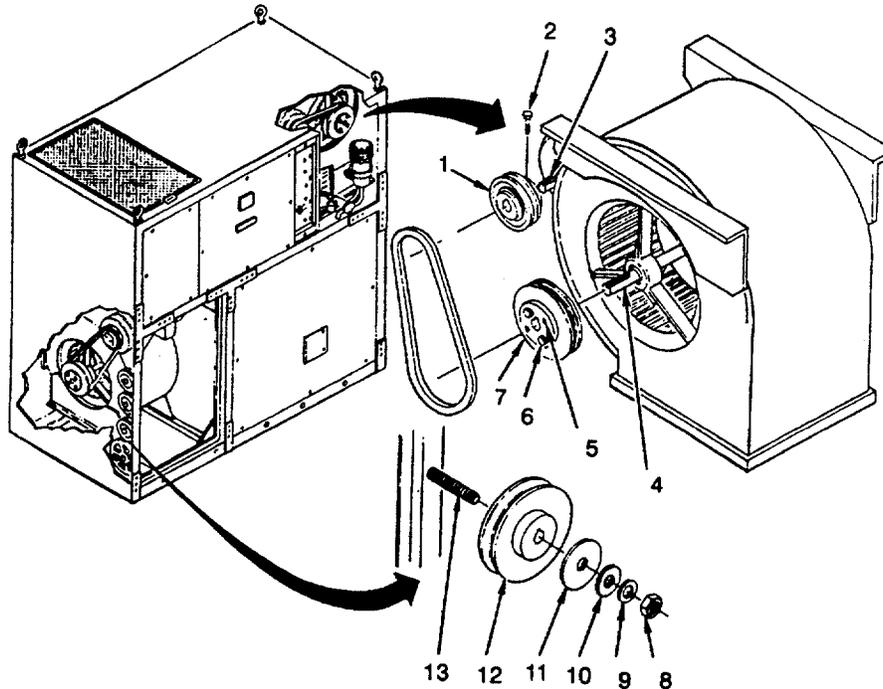

Figure 4-73. Pulleys 60 Hz, Green (Evaporator Motor And Circulator Fan)
1. Check evaporator motor and circulator fan pulleys diameter measures 4 7/8 inches (12.4 cm). If pulley measurements are not correct, install correct pulley. (See Figure 4-73)